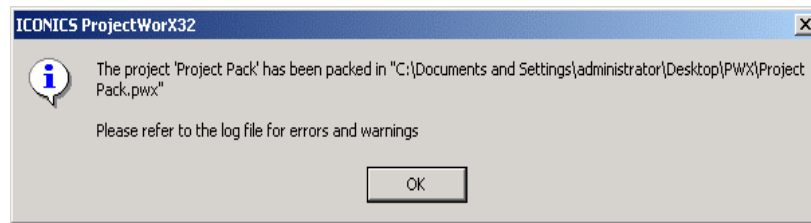

Figure 4.17
3. After you specify the location the packing of the project will start. After the packing is over, you will get the message box shown in **Figure 4.17**: